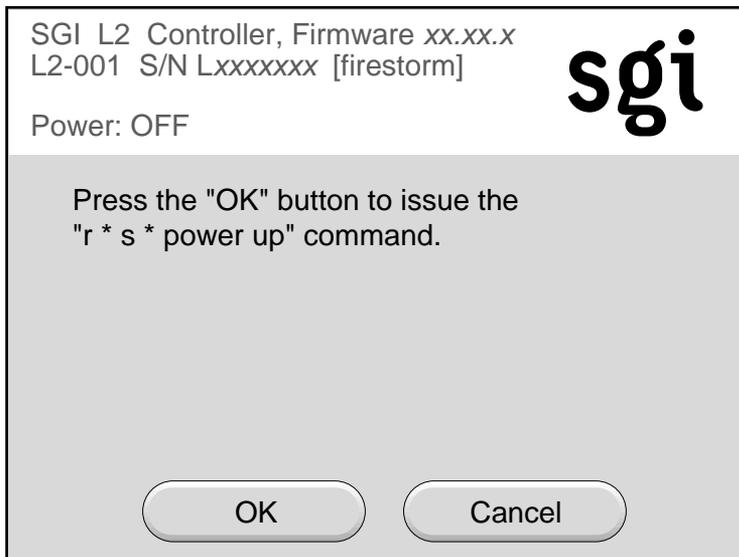

Figure 1-13 Power Up Confirmation Window
7. After you have selected the destination of the bricks you want to power on, select **Power UP** on the home window, and the power up confirmation window, shown in Figure 1-13, appears. This window indicates which bricks will receive the **Power UP** command. In this example, the window indicates that all slots (bricks) in all racks (*r * s**) will be powered on. If you select **OK**, the power-up operation is confirmed, and the home window appears. Selecting **Cancel** stops the power-on operation, and the home window appears.